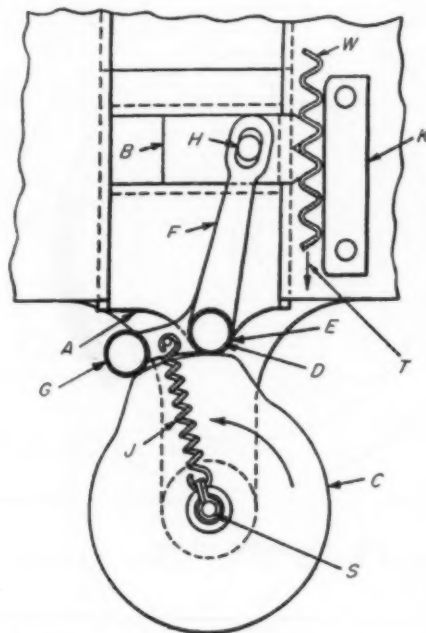
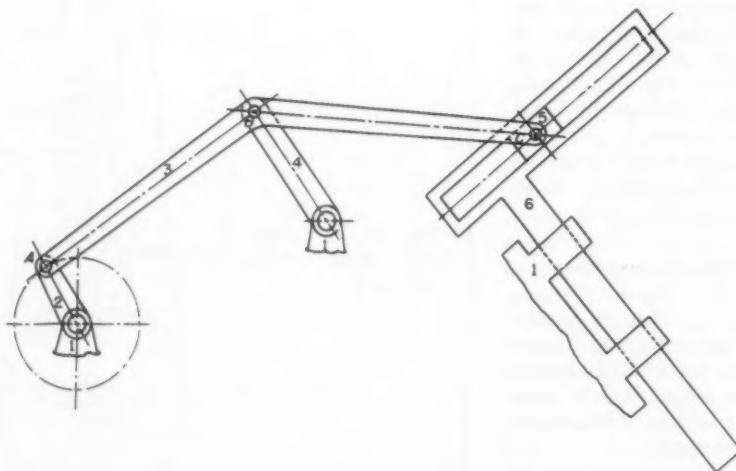

Fig. 24—Double-slide intermittent-motion mechanism.
Fig. 25—Four-bar linkage driving straight-line intermittent motion.
Other intermittent mechanisms, perhaps, do not fall exactly within the eight classes listed in Table 1. For example, in a wire cloth advancing mechanism, Fig. 24, the driver passes through a cycle controlled by a double cam acting through followers with tangential motion and with radial motion to move the double slide. While the teeth of the driver follow a curvilinear path, they move with essentially straight-line motion while engaged with the cloth. The standard four-bar linkage, Fig. 25, also can produce the necessary approximate straight-line motion through a portion of the cycle to drive either rotary intermittent or straight-line intermittent-motion devices, classes 4 and 8.
6. L. Kasper—"Intermittent Feeding Mechanism," *Machinery* (London), Aug. 29, 1946, Pages 270-271. (Fig. 24)